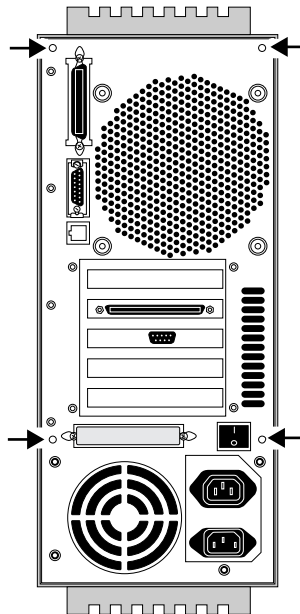

Figure 5-2 Fiery XJ-R/R2 back panel screw locations
2. ***Remove the four screws on the back of the Fiery XJ-R/R2 chassis (see Figure 5-2 on page 5-4).***
4. Replace the four screws at the back of the Fiery XJ-R/R2 chassis (see Figure 5-2 on page 5-4).